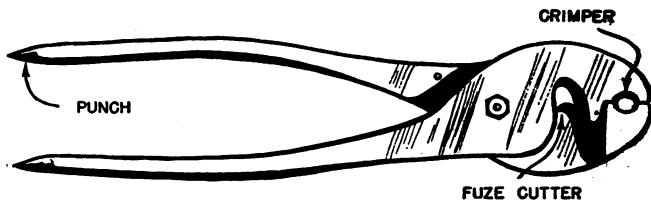

FIGURE 85.—Crimper.
g. Crimper.—The crimper (fig. 85) is used to crimp the open end of the nonelectric cap around the time fuze and to cut time fuze. One leg of the handle is pointed for use in making holes for caps in dynamite, and the other leg has a screw-driver end.